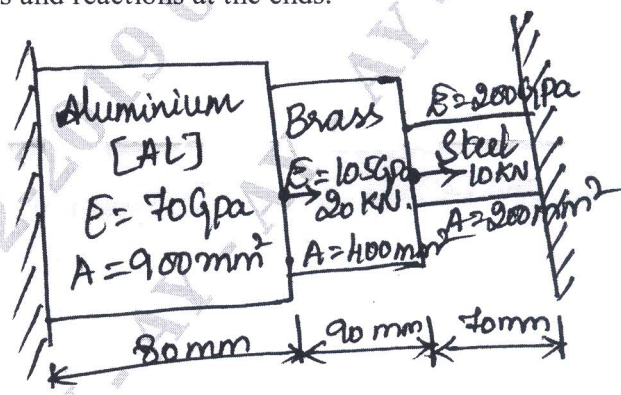

Fig.Q5(a)
- 5 a. For a 3 stepped bar as shown in Fig.Q5(a), determine the displacement at nodes 2 and 3 stress in three sections and reactions at the ends. (12 Marks)